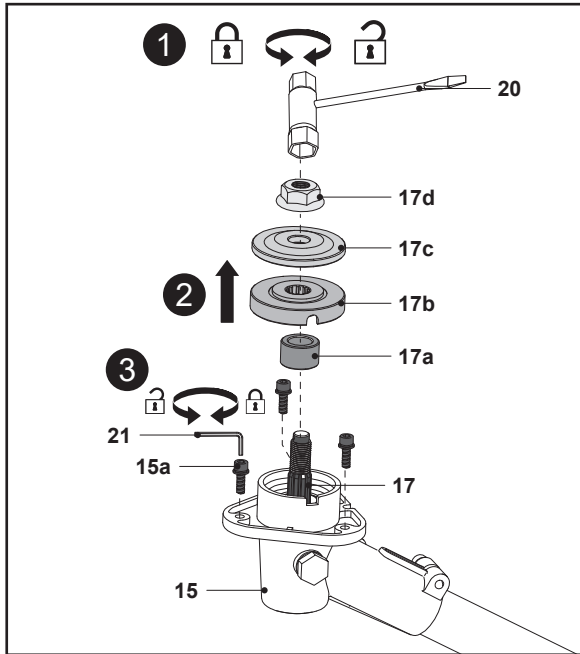

Fig. 3
1. Unscrew the nut (17d) clockwise using the supplied socket spanner (20) (Fig. 3, step 1).
2. Remove the locking flange (17c), the backing flange (17b) and the inner bushing (17a) from the spindle (17) (Fig. 3, step 2).
3. Remove three bolts (15a) from the gear head (15) by using the provided multi-tool (21) and keep them handy (Fig. 3, step 3).